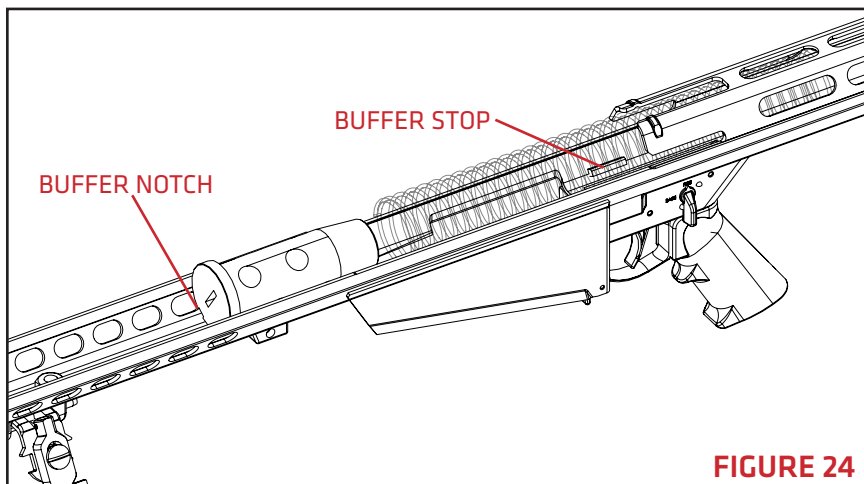

FIGURE 24
1. Place buffer sleeve and mainspring into the lower receiver and align the buffer notch with the welded buffer stop of the lower receiver. (**FIGURE 24**).